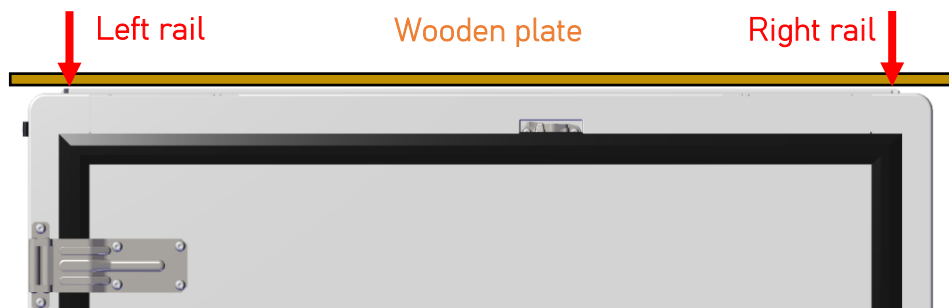

Figure 8 – Positioning of protective wooden plate on the container roof before stacking.
- If stacking with a lightweight object, always place a wooden plate, or similar, **large enough to rest on both rails (at least 1534 mm)** on the container roof to protect the photovoltaic panels (**Figure 8**).